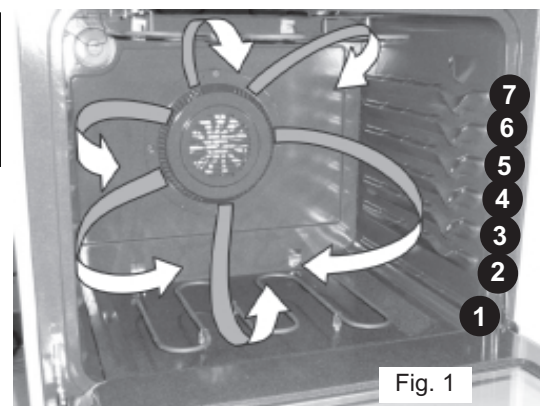

Fig. 1
SpeedBake™ uses a fan to circulate the oven's heat evenly and continuously within the oven (See Fig. 1). This improved heat distribution allows for even cooking and excellent results using multiple racks at the same time. Foods cooked on a single oven rack will generally cook faster and more evenly with SpeedBake™. Multiple oven rack cooking may slightly increase cook times for some foods, but the overall result is time saved. Breads and pastries brown more evenly.
2. When using SpeedBake™ with a single rack, place oven rack in position 4 or 5. If cooking on multiple racks, place the oven racks in positions 3 and 6 (for 2 racks). Place in positions 2, 4 and 7 (for 3 racks). Refer to Fig. 1.
1. Arrange interior oven racks and place food in oven (See Fig. 1).